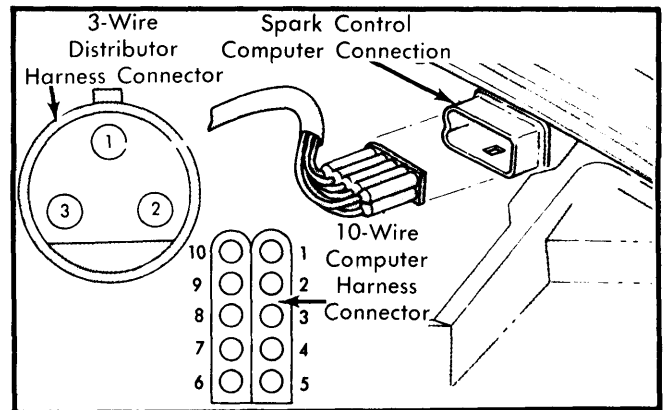

Fig. 7 Distributor and Computer Harness Connectors Used in Testing ESA System
3) If spark was obtained, proceed to step 6). If no spark resulted, turn ignition off and disconnect 10-wire harness connector from computer. See Fig. 7. Turn ignition back on and again, using special jumper wire, connect negative terminal momentarily to ground. Spark should be obtained.